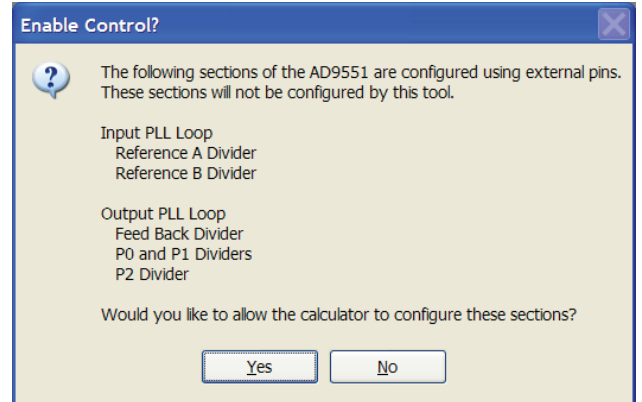

Figure 23. AD9551 Serial Port Programming Warning
5. The **Enable Control?** window, shown in Figure 23, appears.